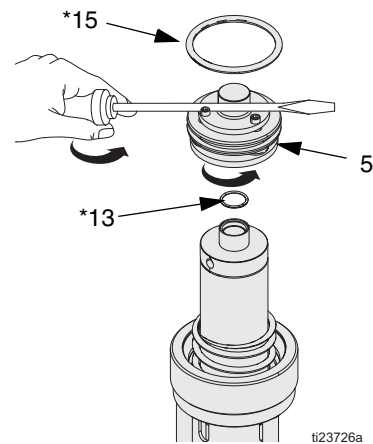

FIG. 12 Series B Air Valve
3. *Series B (and later Air Motors):* Unscrew air valve (5). If necessary to assist turning, wedge a screwdriver blade between the screw heads and the hex cap of the air valve (5). Inspect o-rings (13* and 15*) for damage and replace if necessary. Ensure o-ring (13*) is correctly positioned and not pinched. See FIG. 12.
NOTE: See Air Motor Repair, step 3 and step 4 (FIG. 12) for special notes on reassembly.